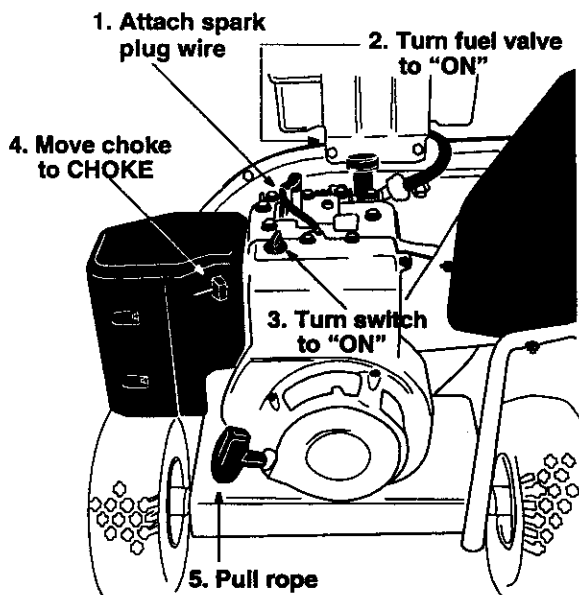

Figure 12
- Attach spark plug wire and rubber boot to spark plug. See Figure 12.
- Move stop switch to ON position. See Figure 12.
- Move choke control to CHOKE position. See Figure 12. If restarting a warm engine after a short shutdown, move choke lever to RUN position.
- Grasp starter handle and pull rope out slowly until engine reaches start of compression cycle (rope will pull slightly harder at this point). Let the rope rewind slowly. See Figure 12.